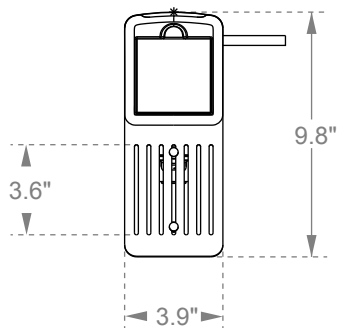

Figure 6.11 Adjustment of Phone Holder Pins
- Phone Mounts support telephones with two adjustable bolts designed to mount any phone via the universal wall mount hole in the rear of the phone (Figure 6.11).